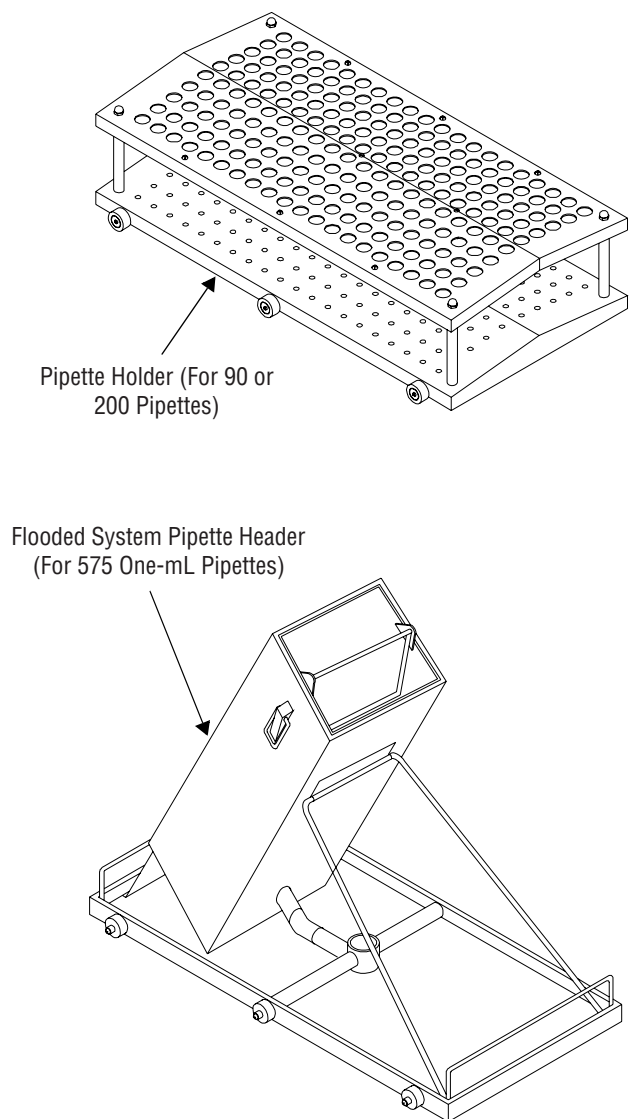

Figure 4-4. Pipette Header
- **Pipette header** (see Figure 4-4): used to individually wash all types of pipettes, from 1/10 to 25 mL.